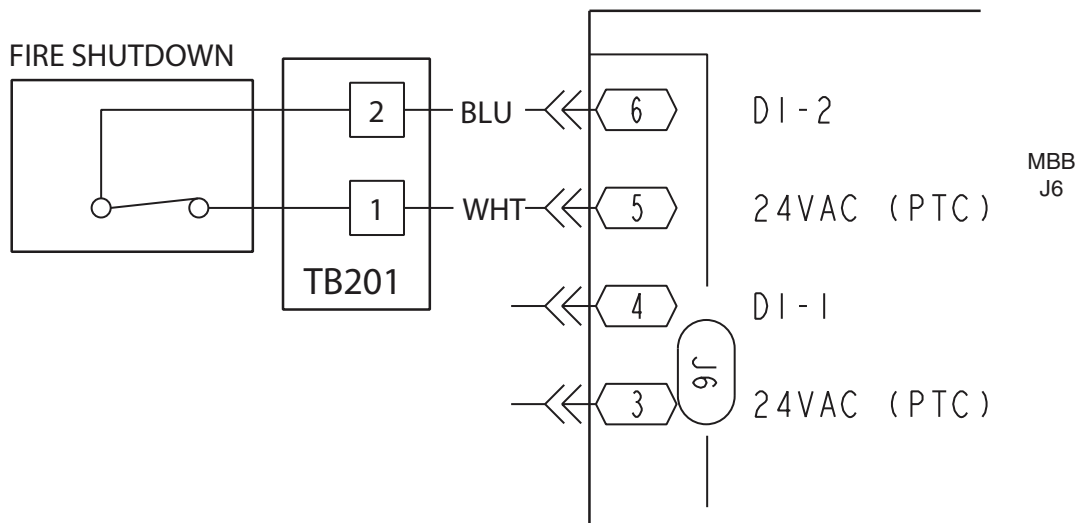

Fig. 65 — Fire Shutdown Wiring
- Smoke control — fire shutdown (Fig. 65)
Smoke Control Modes — Rooftop units can be used for aid in building smoke control in the event of a building fire. The available functions include: Fire Shutdown, Pressurization, Evacuation, and Smoke Purge. These functions are enhanced when multiple rooftop units are used to zone a building. See Table 31 and Fig. 65 and 66.
FIRE SHUTDOWN — Fire Shutdown mode terminates all unit operation (cooling, heating, supply fan, and power exhaust). This mode prevents recirculation of contaminated air back into the space. The mode will not allow admission into the space of unsuitable outside air. See Fig. 65 for wiring.
SMOKE CONTROL INSTALLATION — Implementation of the various Smoke Control Modes on these units requires the installer to modify the unit wiring to add contacts (via either manual switches or relays) that will selectively interrupt and override standard factory control sequences. See Table 31 and Fig. 65 and 66 for more information.